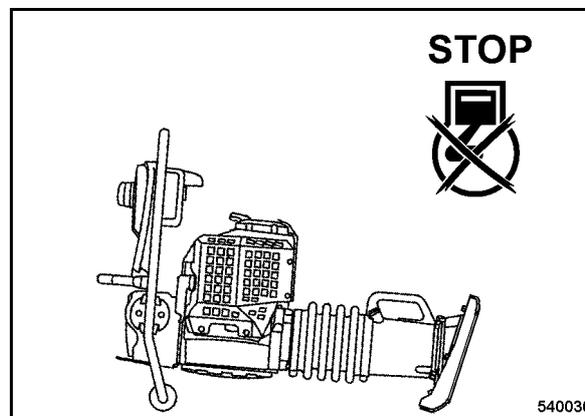

Fig. 30
- Lay down the tamper (Fig. 30) to transport it on the rollers.